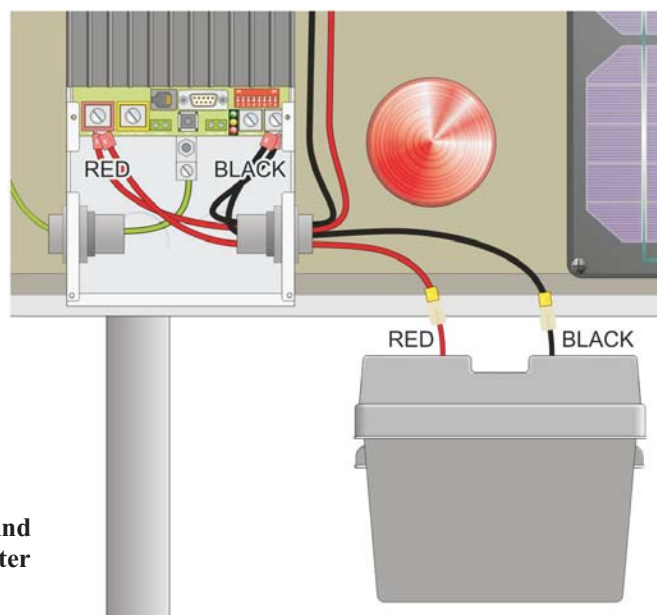

Figure 6-20: The Wind
6. Insert the back wire into the neutral lug and tighten the screw down connector until the connection is secure. Figure 6-20 shows the connections between the PV array's terminal block and the Diversion Load Controller.